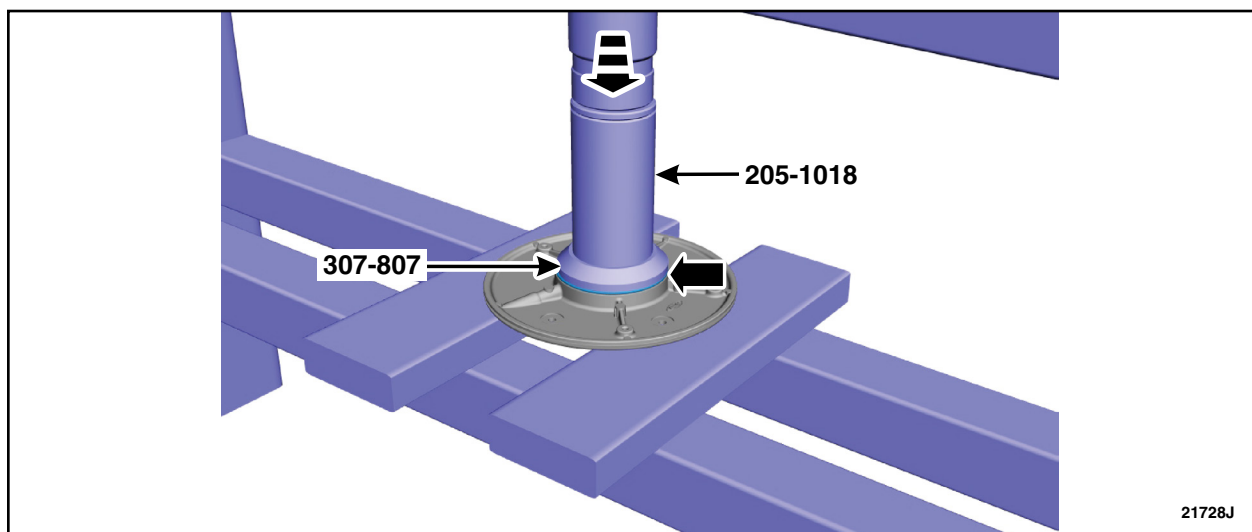

FIGURE 10
12. Using the special tools and a press, install the *new* torque converter hub seal on the *new* front support cover. Use Special Service Tool: 205-1018 Installation Tube, 307-807 Installer Converter Seal and the General Equipment: Hydraulic Press. See Figure 10.